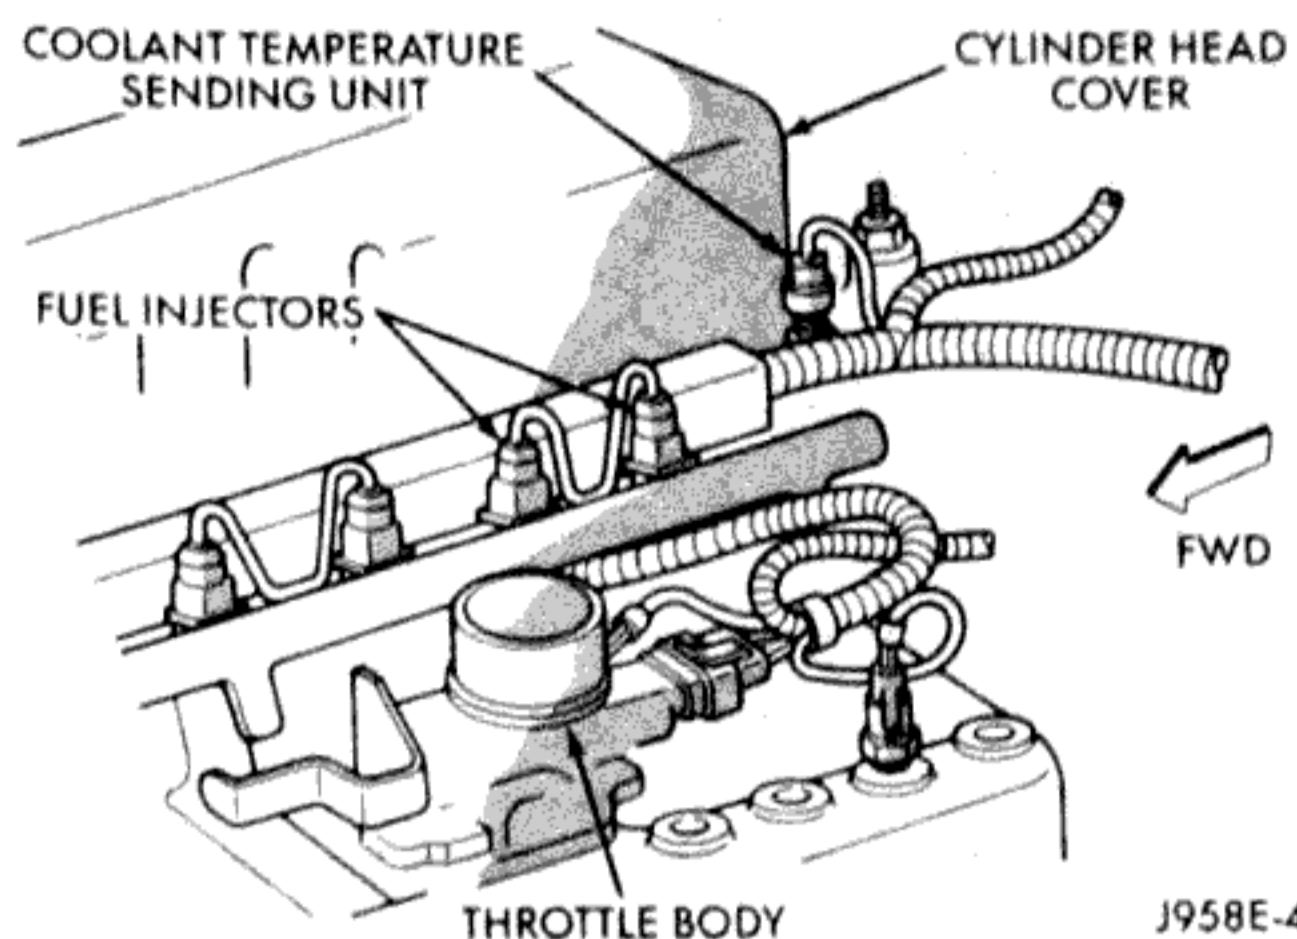

Fig. 1 Coolant Temperature Sending Unit - Typical
(1) Turn ignition switch to ON. Disconnect coolant temperature sending unit connector. Sending unit (Fig. 1) is located near left rear corner of the cylinder head. The gauge needle should move to low end of gauge scale. If OK, go to next step. If not OK, go to step 3.
(2) Install a jumper wire from sending unit wiring to ground. The gauge needle should move to high end of gauge scale. If OK, replace sending unit. If not OK, remove jumper wire and go to next step.